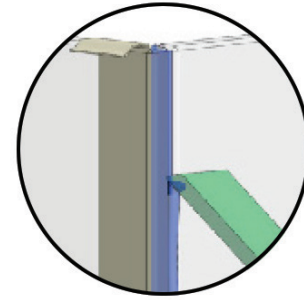

FIG 13.
- Spray channels and glass with slightly soapy water then use spatula provided to clean off excess silicone (**FIG 13**). Repeat this process 3 times. Use minimal water then wipe off with paper towels. Tough Wipes or Baby Wipes are also good to use for this.